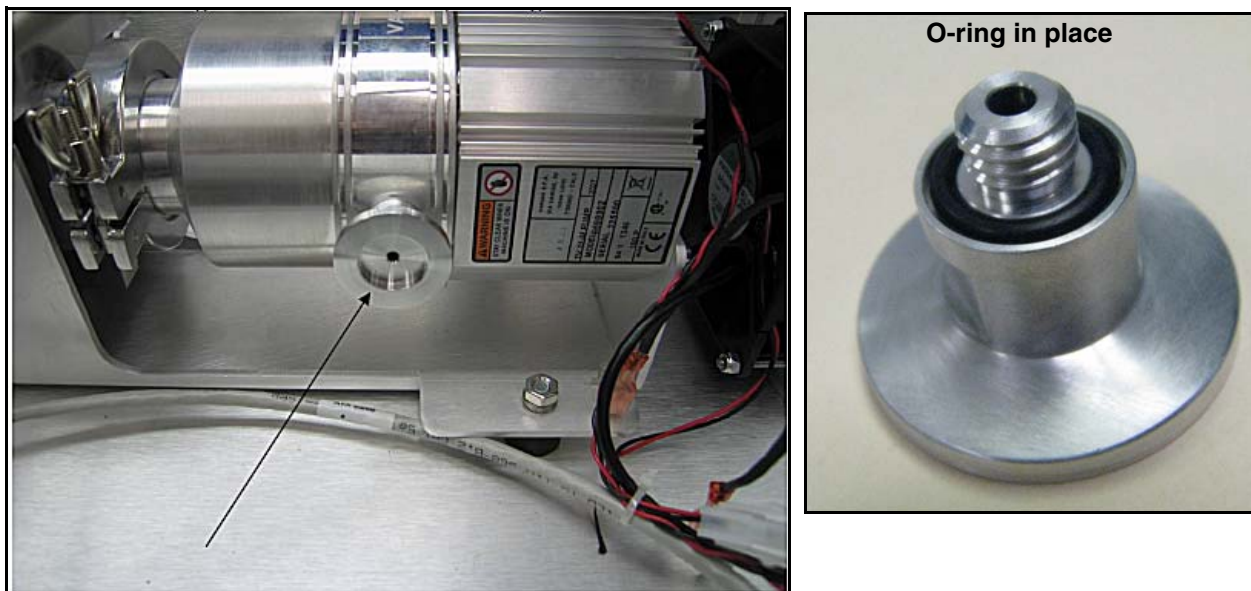

Figure B-17 Turbo Pump Flange in Place
6. Verify the installation of the O-ring into the turbo pump flange. Then screw the turbo pump flange onto the turbo pump and tighten $\frac{1}{4}$ turn (Figure B-17) using a 12 mm open end wrench. Do not over tighten the flange as the threads in the turbo body can be damaged.